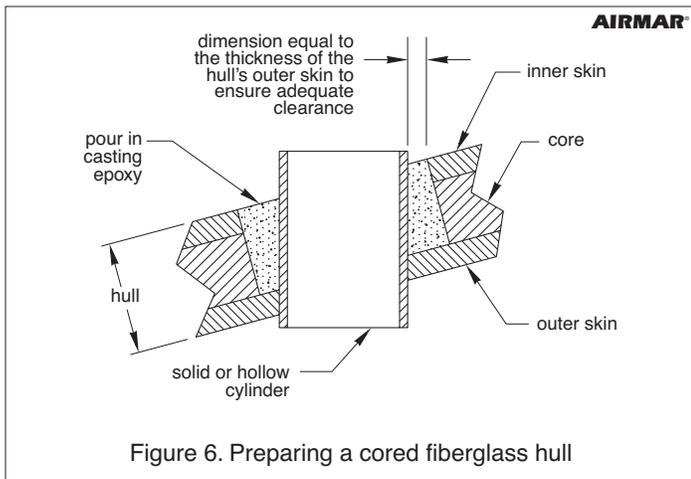

Figure 6. Preparing a cored fiberglass hull
1. Drill a 3mm or 1/8" pilot hole perpendicular to the waterline from inside the hull (see Figure 6). If there is a rib, strut, or other hull irregularity near the selected mounting location, drill from the outside. (If the hole is drilled in the wrong location, drill a second hole in a better location. Apply masking tape to the outside of the hull over the incorrect hole and fill it with epoxy.)